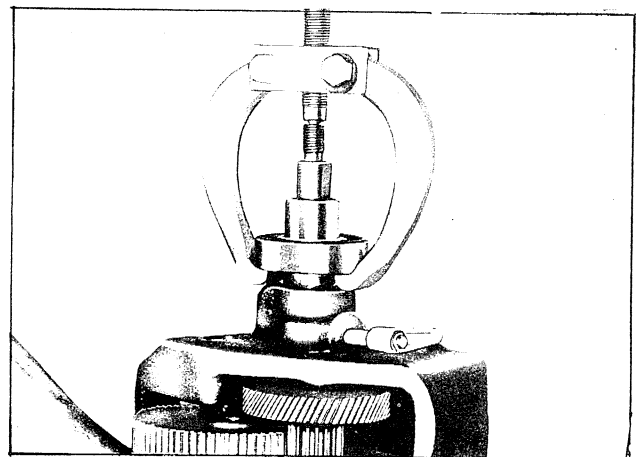
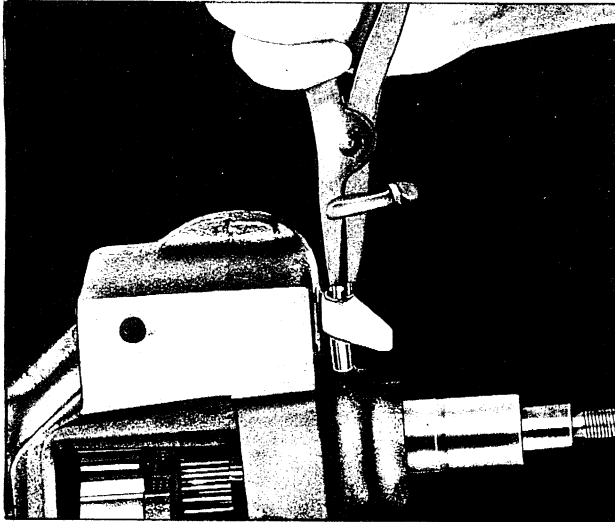

Figure 126
Figure 127
3. Using a wheel puller, remove the ball bearing, *Figure 126*.
4. Remove the snubber (WH1X1160) by lifting off the retaining ring, *Figure 127*. In re-assembly be sure that the washers on each side of the snubber are in place and that it wings freely. Refer to *Figure 126* for proper position of the snubber in relation to the gearcase.